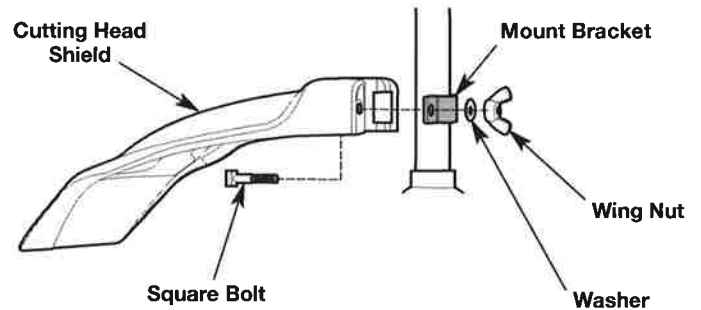

Fig. 2
4. Insert the square bolt into the hole underneath the cutting head shield (Fig. 2). Push the square bolt through the cutting head shield and mount bracket.
5. Place the washer onto the square bolt (Fig. 2).
6. Screw the wing nut onto the square bolt until the cutting head shield is firmly in place (Fig. 2).